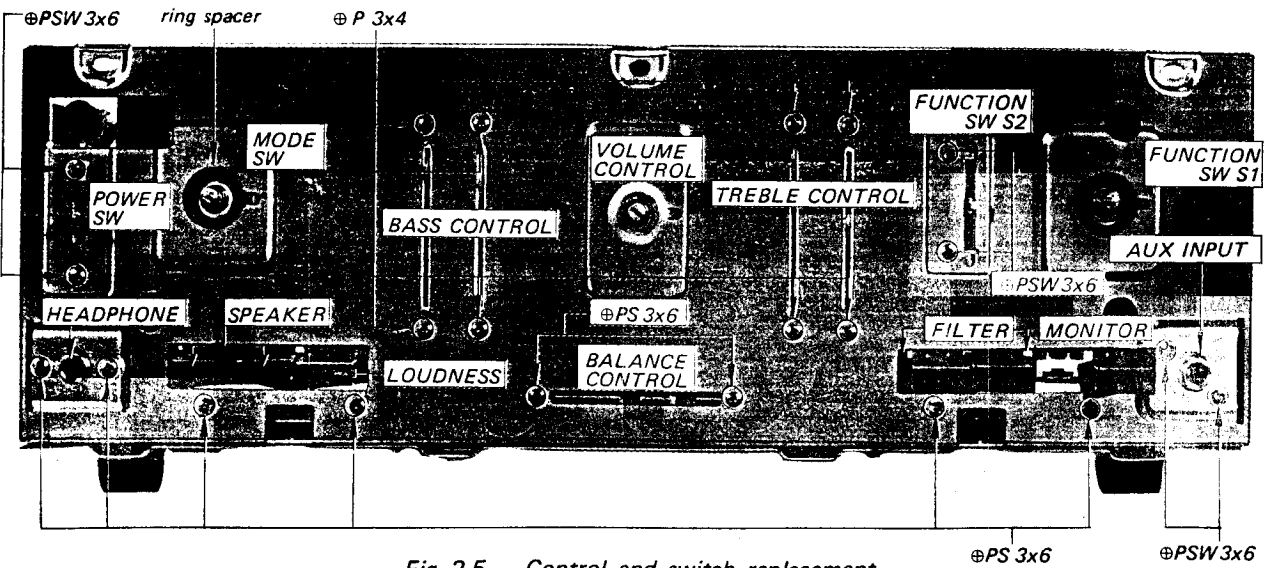

Fig. 2-5 Control and switch replacement
1. Remove the screws ($\oplus$ PSW3x6) securing the switch or control to the front subchassis as shown in Fig. 2-5.
2. Remove the two screws ($\oplus$ PS3x6) securing the printed circuit board to the front subchassis. See Fig. 2-5.
the control to the front subchassis as shown in Fig. 2-5.